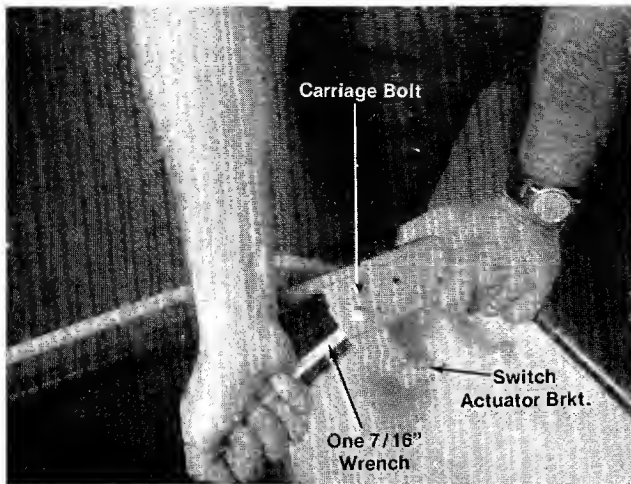

FIGURE 12.
6. Place the switch actuator bracket (H) in position (left hand side) as shown in figure 12. Secure with carriage bolt (C) and locknut (D).